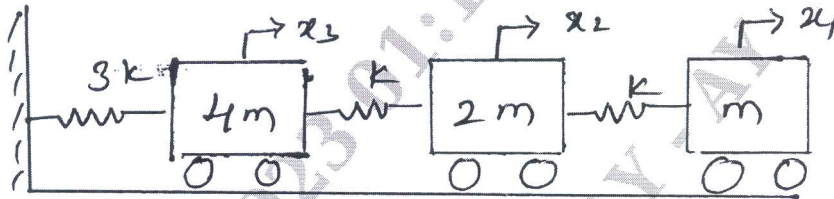

Fig.Q7(a)
- 7 a. Determine the influence coefficients for the system shown in Fig.Q7(a).